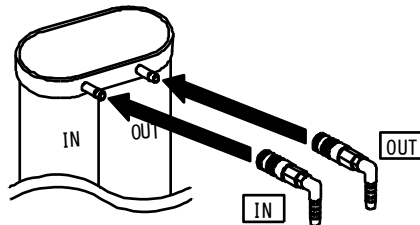

Fig.3
6. Fit in the coupler marked with (IN) to the inlet of ion exchange resin cartridge (left) until click is heard. (See Fig.3.)
7. Fit in the coupler marked with (OUT) to the outlet of ion exchange resin cartridge (right) until click is heard. (See Fig.3.)